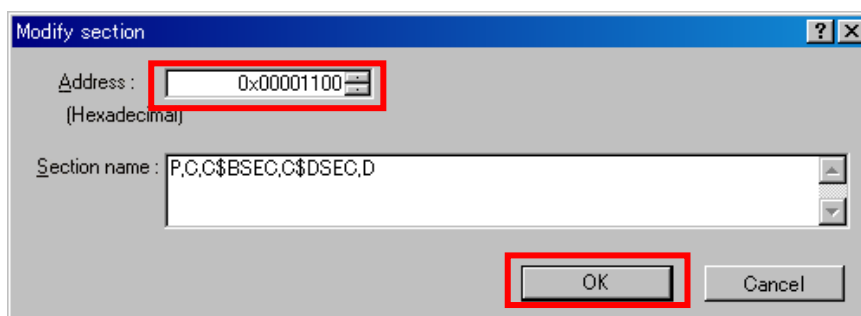

Figure 5.3.10 Section Setting (2/2)
(2) Enter "0x00001100" in the [Address] as shown in Figure 5.3.10, and click "OK".